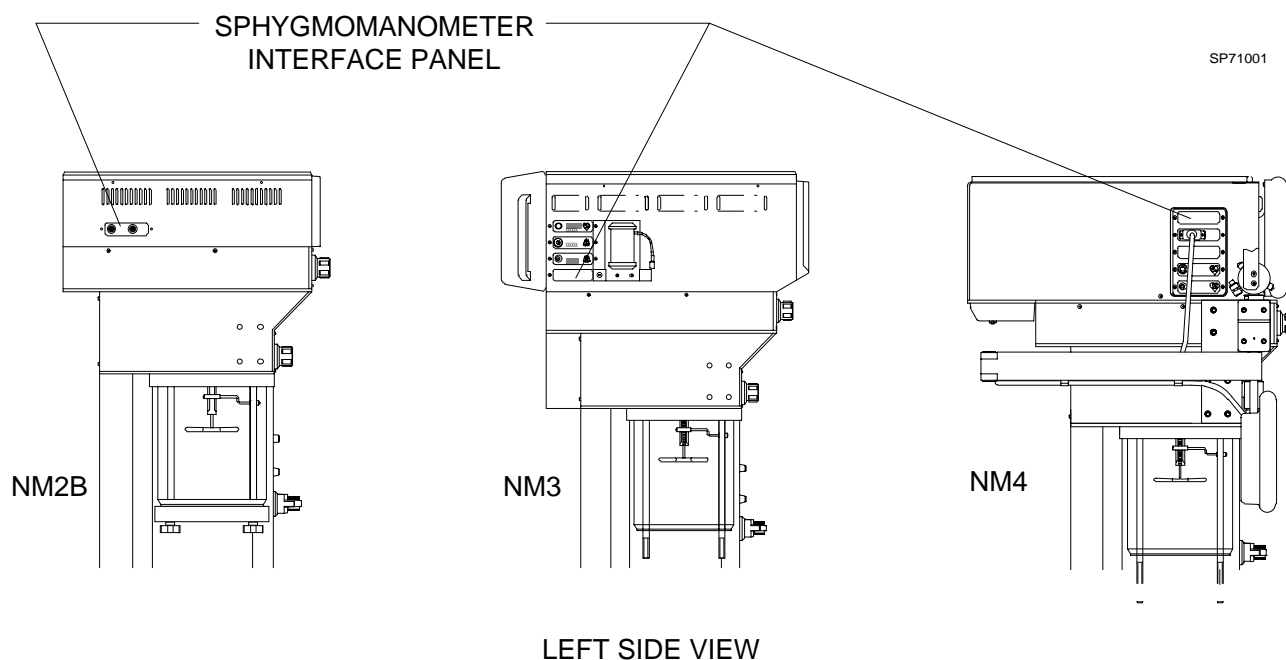

Figure 2: LOCATIONS OF SPHYGMOMANOMETER INTERFACE PANEL
15. Insert the BPG jack through the hole where the plug was removed, and secure the jack with a 5/16-18 hex nut. See Figure 2.